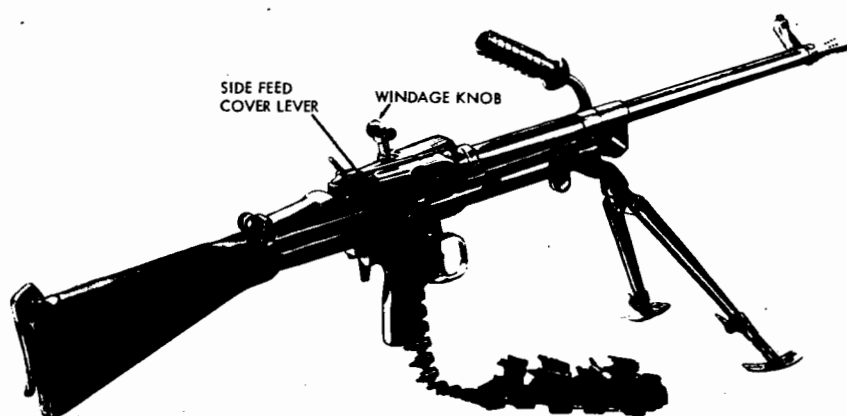

Figure 55. Vzor 52 light machinegun, belt-fed.
i. If belts have been used, press the magazine catch and allow the feed cover to swing open; then rotate the side feed cover lever (fig. 55) up and forward until the side feed cover swings open. Lift the belt up and out of the gun.